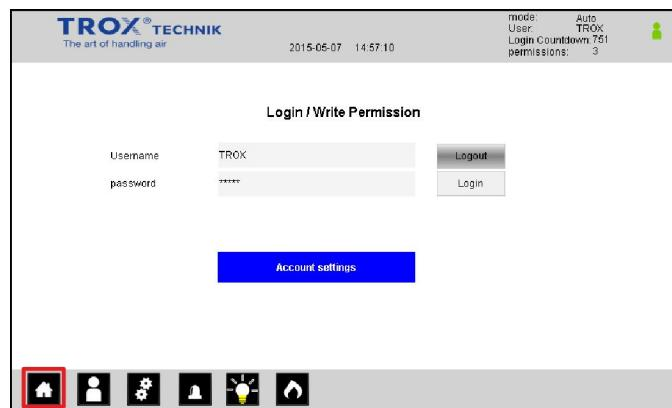

Fig. 18: Opening the system overview screen (variant 1)
- Once you are logged in, press  (Fig. 18).